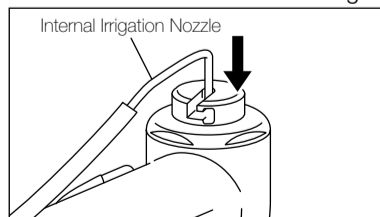

Fig. 6
- ② Insert Internal Irrigation Nozzle to the hole located the top of push-button.(Fig.6)